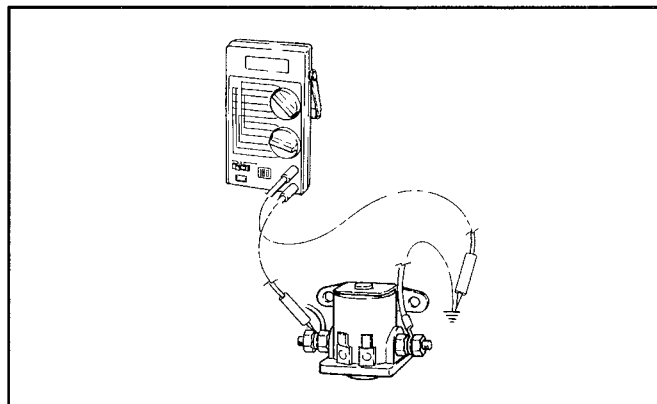

FIGURE 8-16. STARTER VOLTAGE CHECK
1. Connect a voltmeter between the output terminal on the start relay (opposite the BAT terminal with the starter motor lead connected) and ground. See Figure 8-16.